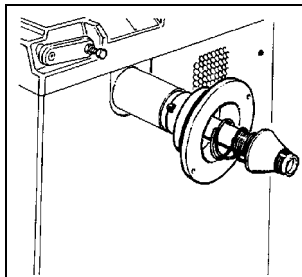

fig.12
- **Figs. 12 and 13** show the attachment system for car wheels using the cone flange.